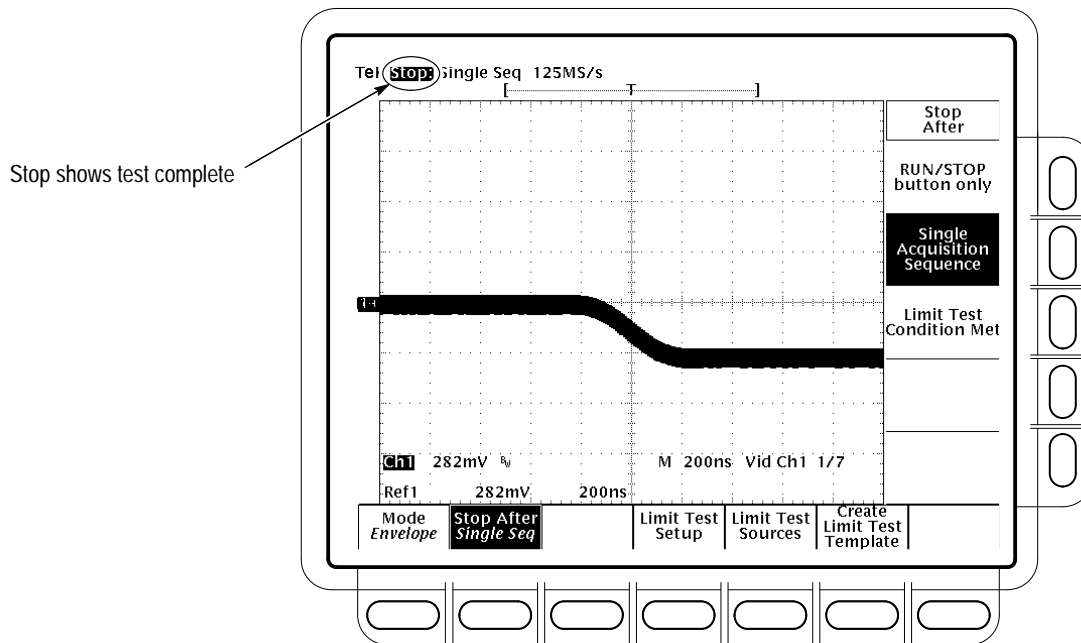

Figure 1–27: Jitter Test When Completed – TDS 684A Shown
- v. Confirm that the oscilloscope successfully makes 100 acquisitions. If not successful, the oscilloscope bell will ring. When the word **Run** in the top left corner of the display changes to **STOP**, the test is complete. See Figure 1–27.